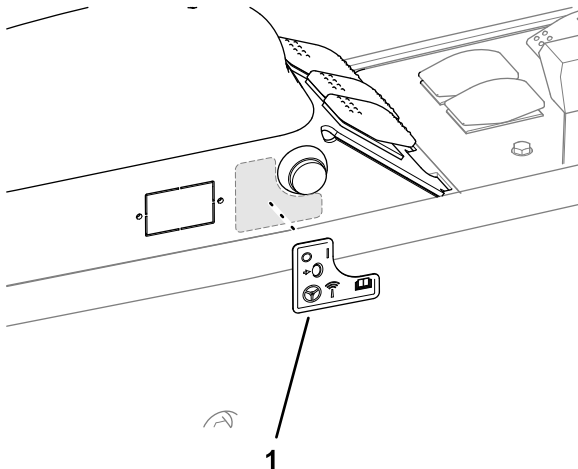

Figure 65
6. Affix the AutoSteer remote-engage decal to the arm panel as shown in Figure 65.